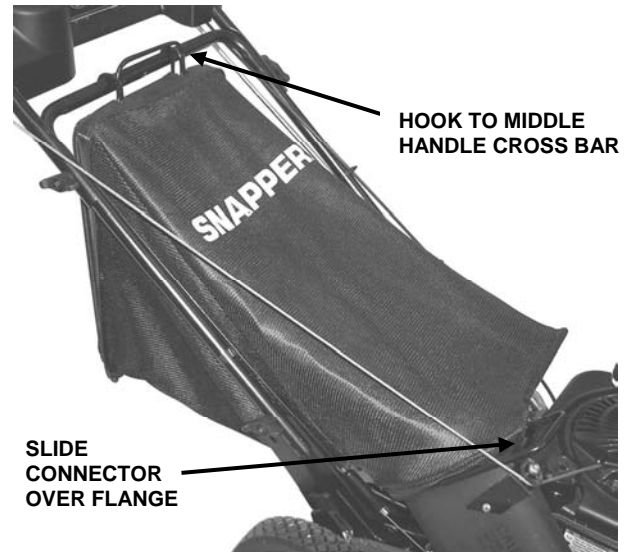

FIGURE 2.11
STEP 2: Install grass bag by sliding connector over adapter flange. See Figure 2.11.
STEP 3: Attach grass bag hooks over middle handle cross bar. See Figure 2.11.